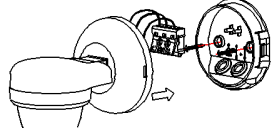

Figure 2
- Fix the bottom with the inflated screws on the selected position(refer to figure 2) .